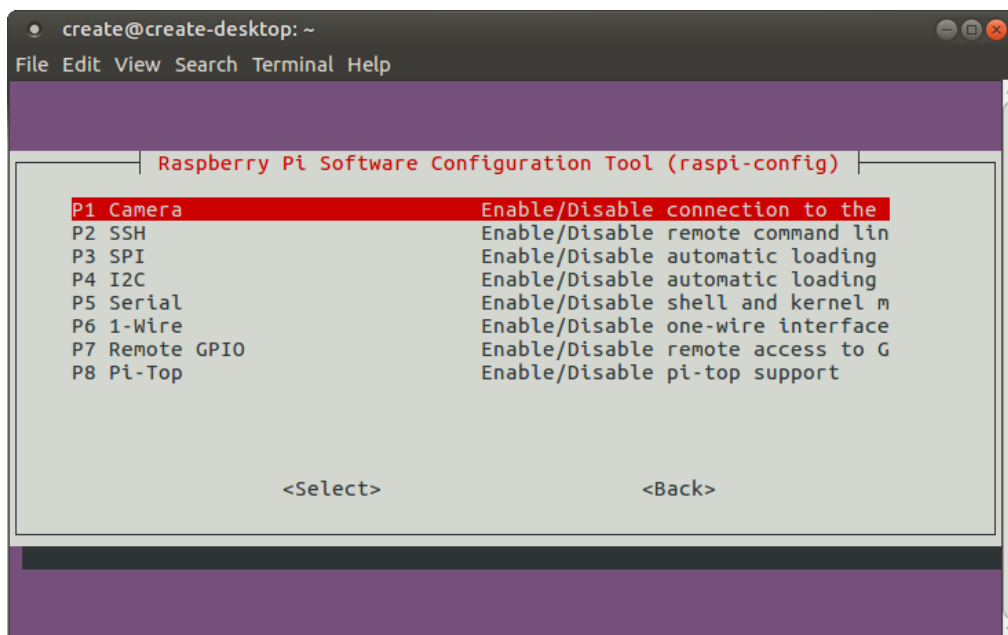

Figure 4: Interfacing Options
- e. This will show the screen in Figure 4. Use the arrow keys to navigate to SSH and press Enter